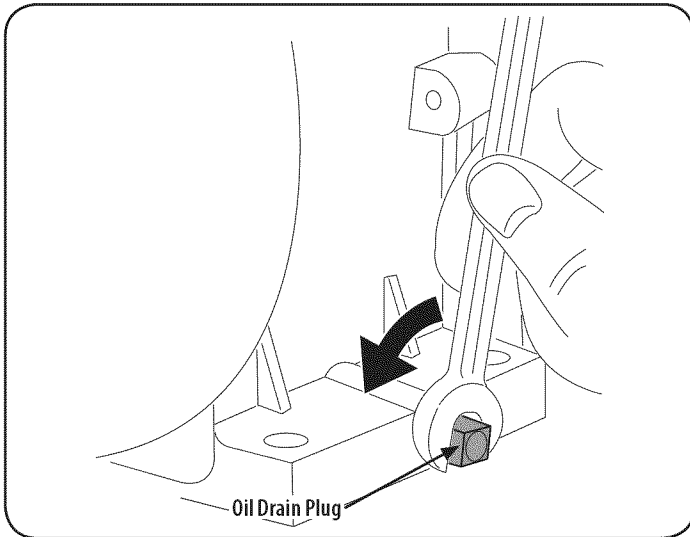

Figure 14
- Remove the oil drain plug, see Figure 14.